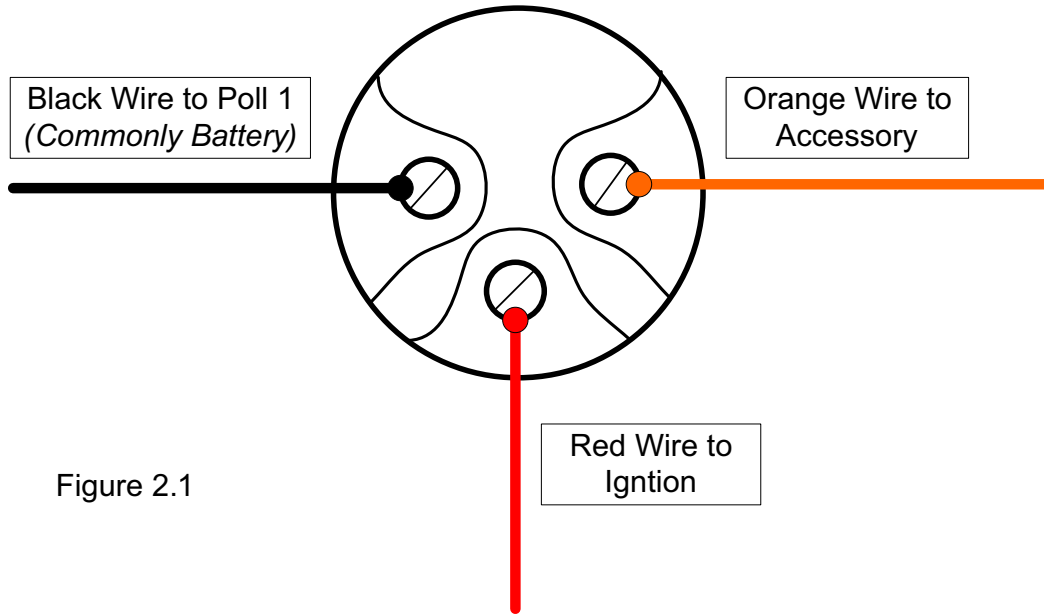

Figure 2.1
5. When using ignition switch with pigtail leads - solder the wires into place (see figure 2.1). Use 3/16" x 1.5" heat shrink to cover solder joints and protect connections.
6. When using an ignition switch with bolt terminals – twist Orange, Red, and Black wire ends and crimp the 3 supplied #10 ring terminals. Slide 3/16" x 1.5" heat shrink over crimp to protect connection. Firmly tighten terminal screws with ring terminals installed. (see figure 2.1)